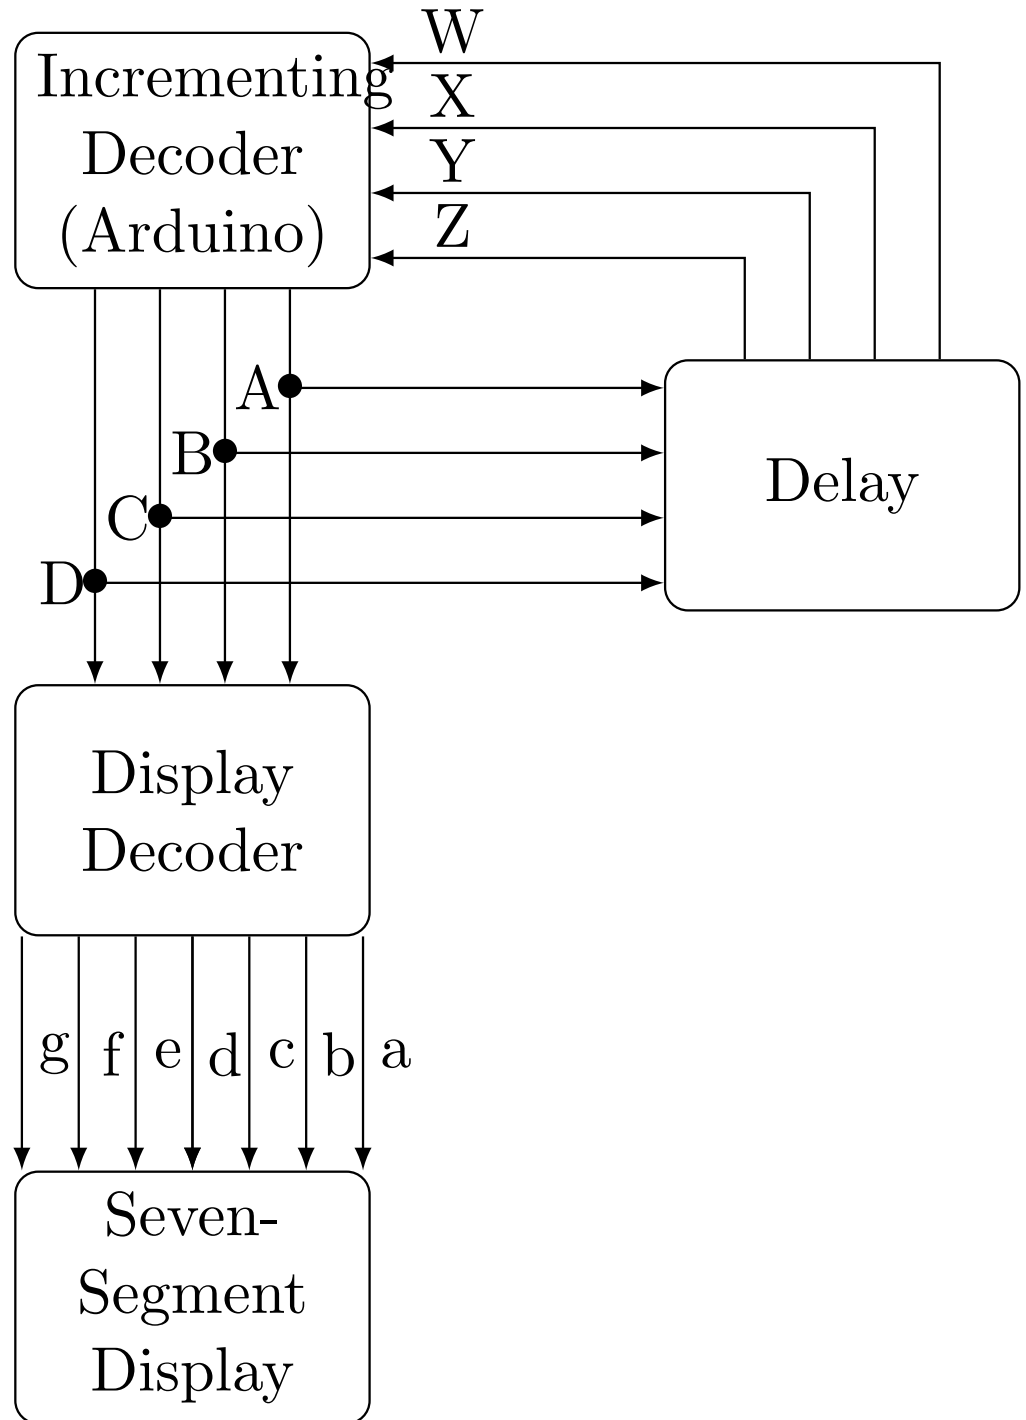

Figure 6.2:
2. Connect the Arduino, 7447 and the two 7474 ICs according to Table 6.2 and Fig. 6.2.
3. Realize the decade counter in Fig. 6.2.